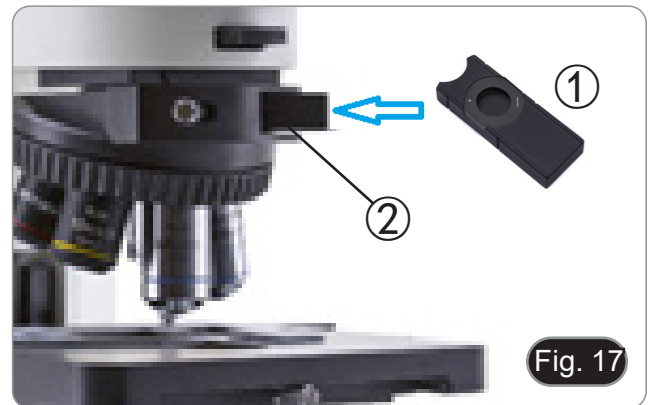

Fig. 17
2. Remove the dummy slider from the nosepiece and insert the analyzer into the dummy slider, then insert the ① assembly into the slot ②. (Fig. 17)